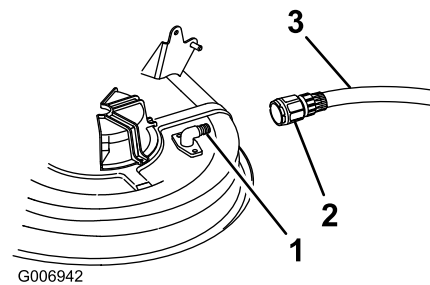

Figure 43
4. Attach the coupling (not included) to the mower washout fitting and turn the water on high (Figure 43).